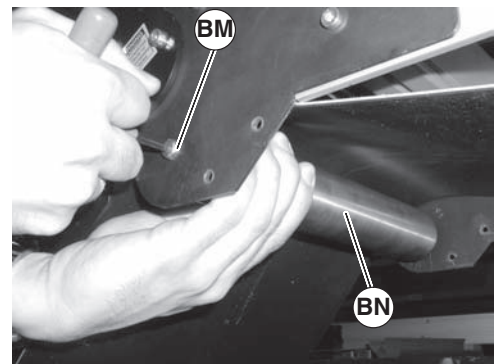

Figure 79
- Push in hex posts (Figure 79, item BM) and remove pulley (BN).